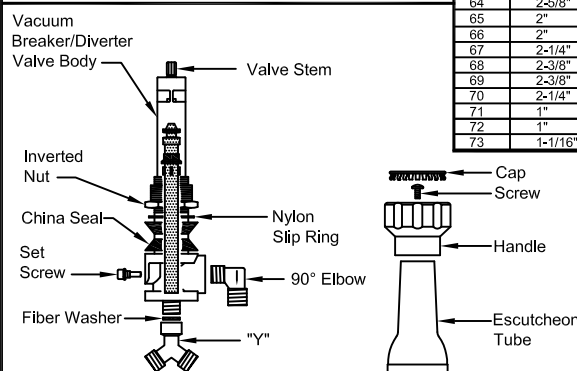

Fig. 2
- 1 Install Vacuum Breaker/Diverter Valve Body (See Fig. 2):**